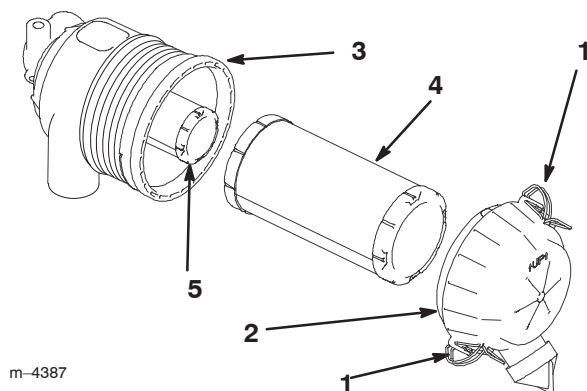

Figure 20
2. Release the latches on the air cleaner and pull the air cleaner cover off of the air cleaner body (Fig. 20).
4. Gently slide the primary filter out of the air cleaner body (Fig. 20). Avoid knocking the filter into the side of the body. Do not remove the safety filter, unless you intend to replace it as well.
2. If the safety filter is being replaced, carefully slide it into the filter body (Fig. 20).
3. Carefully slide the primary filter over the safety filter (Fig. 20). Ensure that it is fully seated by pushing on the outer rim of the filter while installing it.
4. Install the air cleaner cover with the side indicated as UP facing up and secure the latches (Fig. 20).